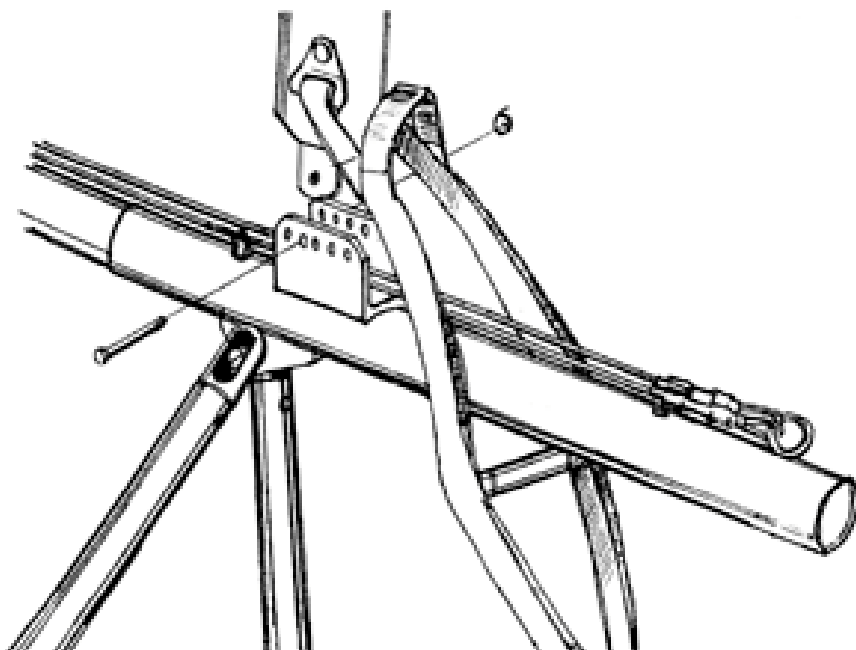

Fig.11
2.1.11. Put the hang strap which is on the kingpost through the kingpost hole in the sail and fit it over the end of N1 keel tube so that the spreader bar of the hang strap is under the keel tube. Install the kingpost into the kingpost channel. **Make sure that crossbar tensioning wire pass through the kingpost channel.** Secure the kingpost with the clevis pin and the safety ring (Fig.11).